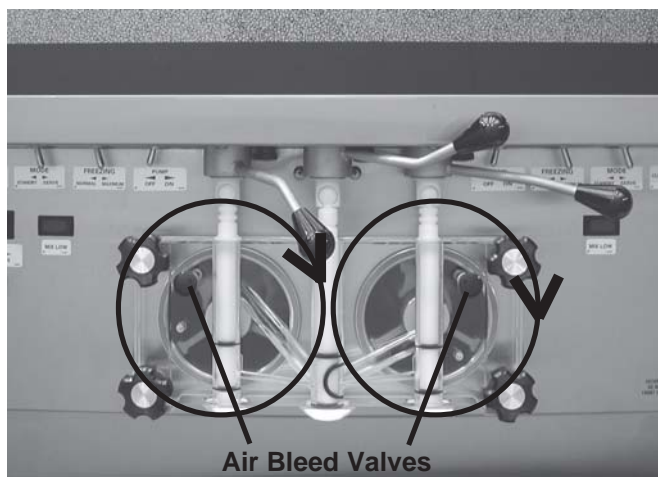

Figure 12. Air Bleed Valves
- C. Place the mix pump switch in the ON position and open air bleed valve on the front door by pushing valve in and holding. Figure 12.
- D. Place the mix pump in the SERVE position. Open spigot and pump liquid mix through the freezer. When empty, place CLEAN-OFF-SERVE switch and the mix pump switches in the OFF position. Figure 12.